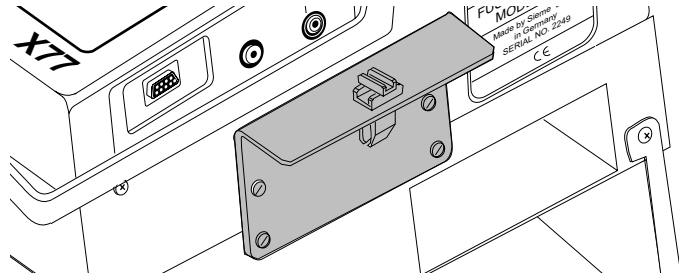

Figure 4
5.3 Replace the side plates with brackets provided with the ASP. Secure the brackets with the eight screws removed in the step 5.2 (Figure 4).